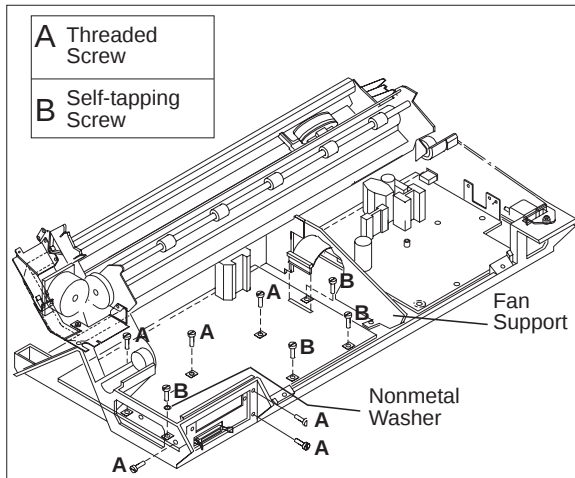

Figure 116. Logic Board Screw Type Locations
2. **Ensure the non-metal washer is installed as shown in Figure 116 on page 373.**